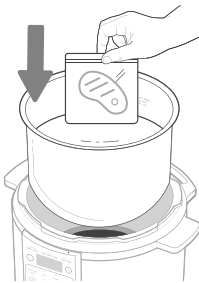

Figure 8.3
- When the progress bar shows **COOKING** stage, remove the lid and carefully submerge the food in the inner pot. [Figure 8.3]